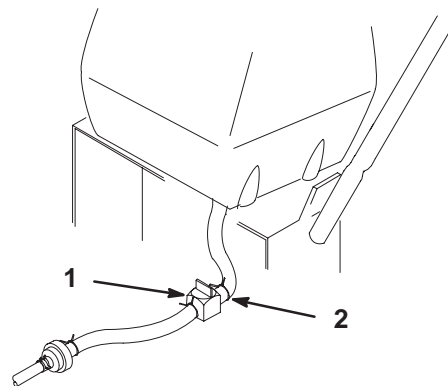

Figure 39
2. Close fuel shut-off valve at fuel tank (Fig. 39).
3. Squeeze the ends of the hose clamp together and slide it up the fuel line away from valve (Fig. 39).
4. Pull the fuel line off the valve (Fig. 39). Open fuel shut-off valve and allow gasoline to drain into a gas can or drain pan.
6. Open fuel shut-off valve at fuel tank (Fig. 39).
7. Check for fuel leaks and repair if needed (Fig. 39).